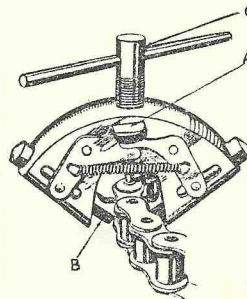

Fig. X7.
A chain rarely breaks if it is kept properly lubricated and adjusted. Usually it is worn out long before it reaches breaking point. The rear chain is the most heavily stressed and is therefore the one most likely to give trouble. Spare parts should be carried to enable the rider to carry out a repair on the road with the aid of a chain rivet extractor (see Fig. X7). The front chain will probably be worn out before it requires shortening.
First press down lever (A) Fig. X7 to open the two jaws (B). Insert the link to be removed so that the jaws grip the roller and support the uppermost inner side plate. The punch (C) is then screwed on to the rivet head until the rivet is forced through the outer plate.